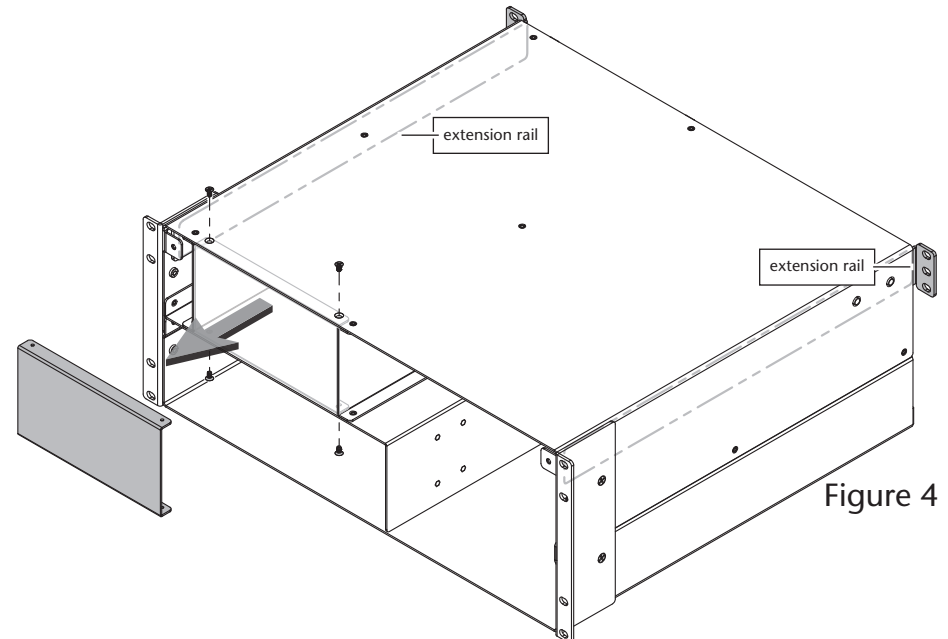

Figure 4
6. OPTIONAL STEP: If you are going to install an optional Sonnet Mobile Rack Device Mounting Kit or Twin 10G 10 Gigabit Ethernet Thunderbolt 2 adapter, remove the four screws securing the blank plate inside the enclosure using a Phillips screwdriver, and then remove and set aside the blank plate. (Figure 4).